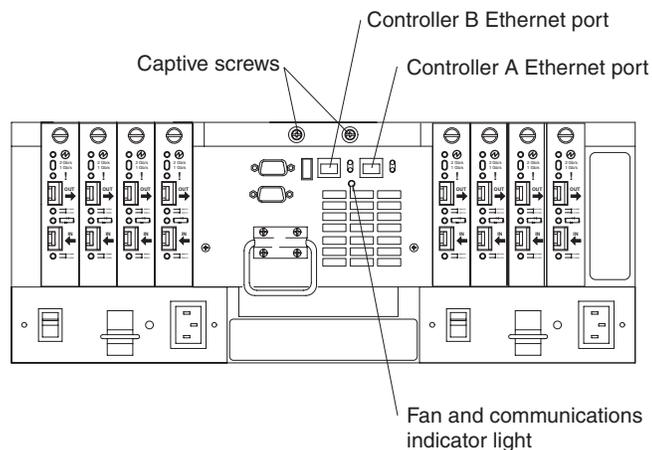

Figure 42. Fan and communications module ports and indicator light
5. Check the fan and communications indicator light. See Figure 42 for the location of the fan and communications indicator light.